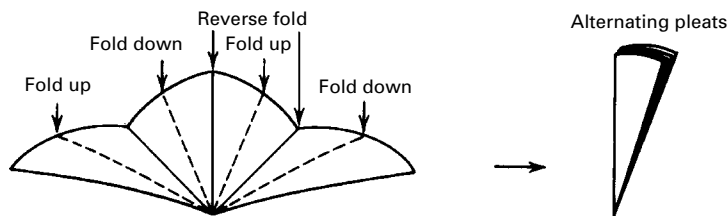

FIGURE 13.11 Refolding to a fan.
3. OK. Now try a "fan fold." You alternately fold, first in one direction and then the other, every individual eighth section of the semicircle (Fig. 13.11).